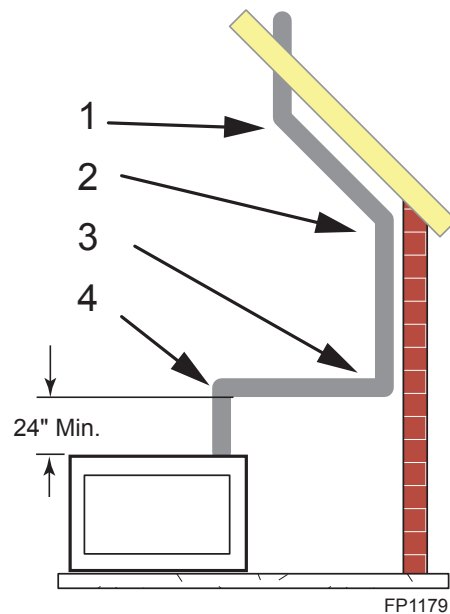

Figure 19 - Maximum Elbow Usage
- Two sets of 45°elbows offsets may be used within the vertical sections. From 0 to a maximum of 8' (2.5 m) of vent pipe can be used between elbows. *Figure 19*
- The maximum angular variation allowed in the system is 270°. *Figure 19*
NOTE: Pay special attention to these installation instructions for required clearances (air space) to combustibles when passing through ceilings, walls, roofs, enclosures, attic rafters, etc. Do not pack air spaces with insulation. Also note maximum vertical rise of the venting system and any maximum horizontal offset limitations. Offsets must fall within the parameters shown in Figures 19 and 20.